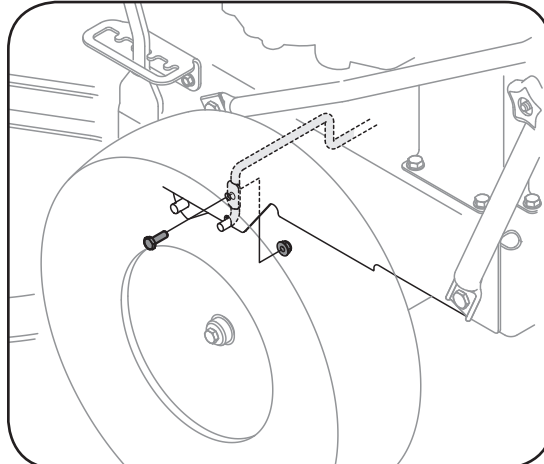

Figure 5-10
7. Looking at the cutting deck from the left side, locate and carefully remove the hairpin clips that secure the deck supports on the rear left side and front left side of the deck. See Figure 5-10.